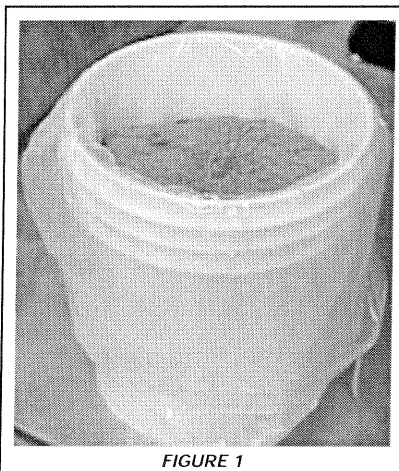

FIGURE 1
2. Fill the bag with the intended material content. (Fig. 1)